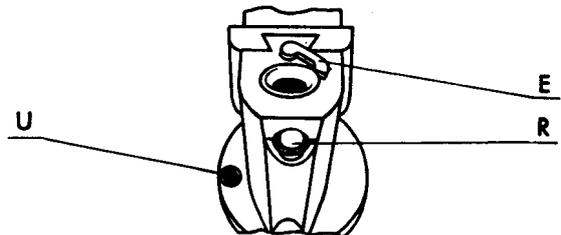

Fig. 5
2. Bring red dot into window U, insert index pin R into central hole (Fig. 5).